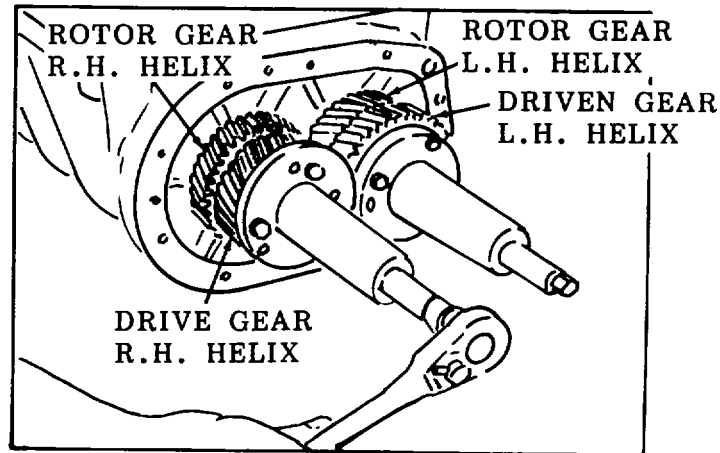

**Figure 3-29. Drive Gears, Removal.**
- (6) Refer to figure 3-29 and remove bolts (1), three flat washers (2), three lockwashers (3), and rotor and drive hub (4).
- (7) Remove three bolts (5), three lockwashers (6), three flat washers (7), and two plates and spacers (8).
- (8) Remove bolt (9), washer (10), and retainer (11).
- (9) Remove two bolts (12), washer (13), and fuel pump coupling disc (14).
- (11) Remove drive gear (15, figure 3-29 and rotor gear (16) simultaneously.
- (12) Remove shims (17, figure 3-29) from the rotor shafts or inner face of the gears and note the number and thickness of shims used with each gear.